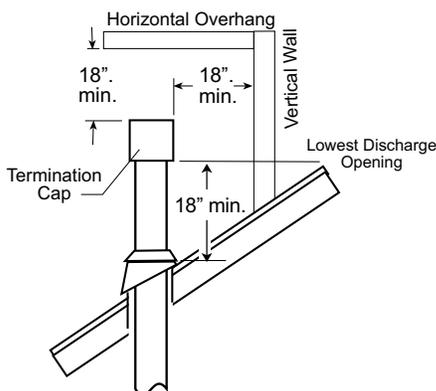

Figure 6.5. Vertical vent termination height above roof.
- **Vent Terminus Clearance:** In no case shall any discharge opening on the cap be less than 18 in. horizontally from the roof surface. See fig. 6.5.